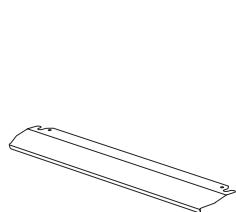

Figure 10
1. A safety panel is designed to protect control panel and the buttons when the oven is in grill mode. (figure 10)